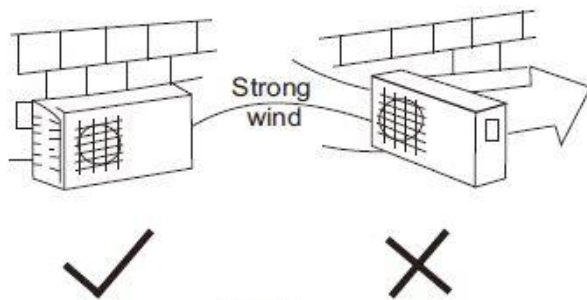

Fig.12
14. Bundle the tubing, connecting cable and drain hose securely and evenly with tape as shown in Fig. 12.